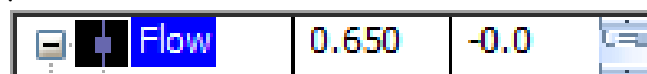

Figure 5-8 Cursor Legend
In the legends a palettes, different icons represent specialized graphing tools. From the graph palette (2), the panning tool and the zoom function are used to get more detail of a specific part of a graph. The cursor legend (3), is described with Figure 5-8, page 72. Although these graphing tools appears on all but the *Central RunTime* graphs, the cursor palette is available only in the *Display Data* and *Display Performance* screens of the ASL 5000 *Post Run Analysis Menu*.
To label the cursor, click on the highlighted word in the **Cursor Legend**, ("Flow" in the example in Figure 5-8). Replace the word with any label of your choice.